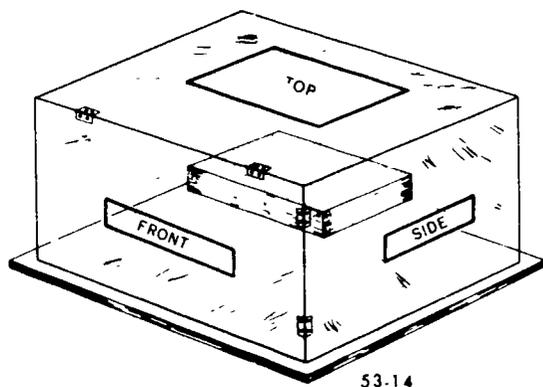

Figure 14. Projected view of an object.
14. Now, imagine yourself looking straight down at the top of the object and tracing on the plastic box top what you see of the object. The result would be a rectangle such as you see (labeled "Top") in figure 14. Note how each of the four corners of this rectangular tracing matches up with the corners of the object as shown by the vertical dashes known as projection lines. Note, too, how the front and right-side tracings appear as projections on the plastic box of what you would see if you were looking directly at the object from those particular angles.